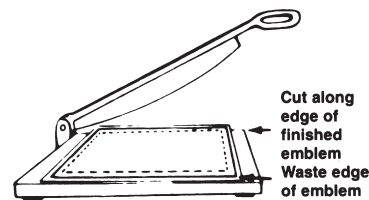

Figure 8
D. Trim to size or cut to shape (Figure 8). Prespacing of letters smaller than 3/4-inch (1.9cm) on filigree and other intricate designs with narrow stroke widths must be on a test and approval basis.